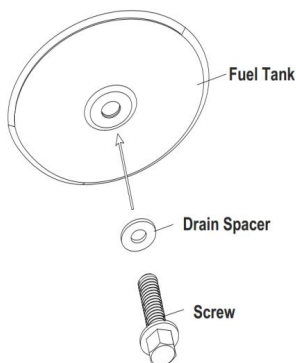

Fig.7 Drain Plug Reinstall
- 4.To replace, push the drain head fully into the drain hole and secure by pushing the seal cap fully into the head hole (see Fig.7)